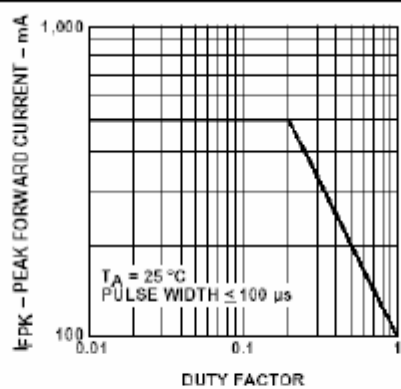

Figure 5. Maximum Peak Forward Current vs. Duty Factor.
2. Any pulse operation cannot exceed the absolute Max Peak Forward current as Specified in Figure 5.